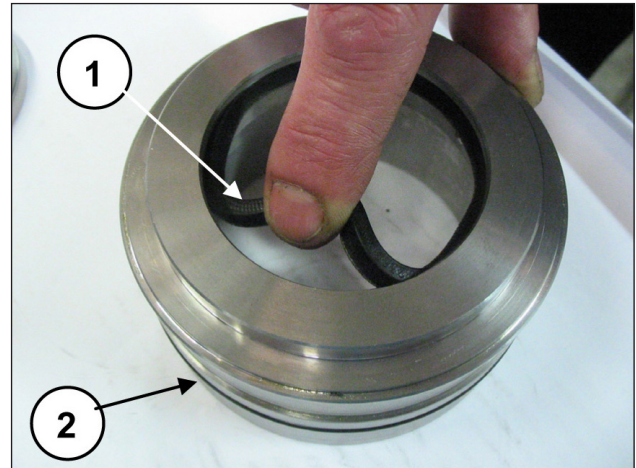

Fig. 164
Insert the low pressure seal in the packing support (pos. ①, Fig. 164) taking care to choose the direction of assembly where the seal lip is facing forwards (towards the head) and the O-ring (pos. ②, Fig. 164).